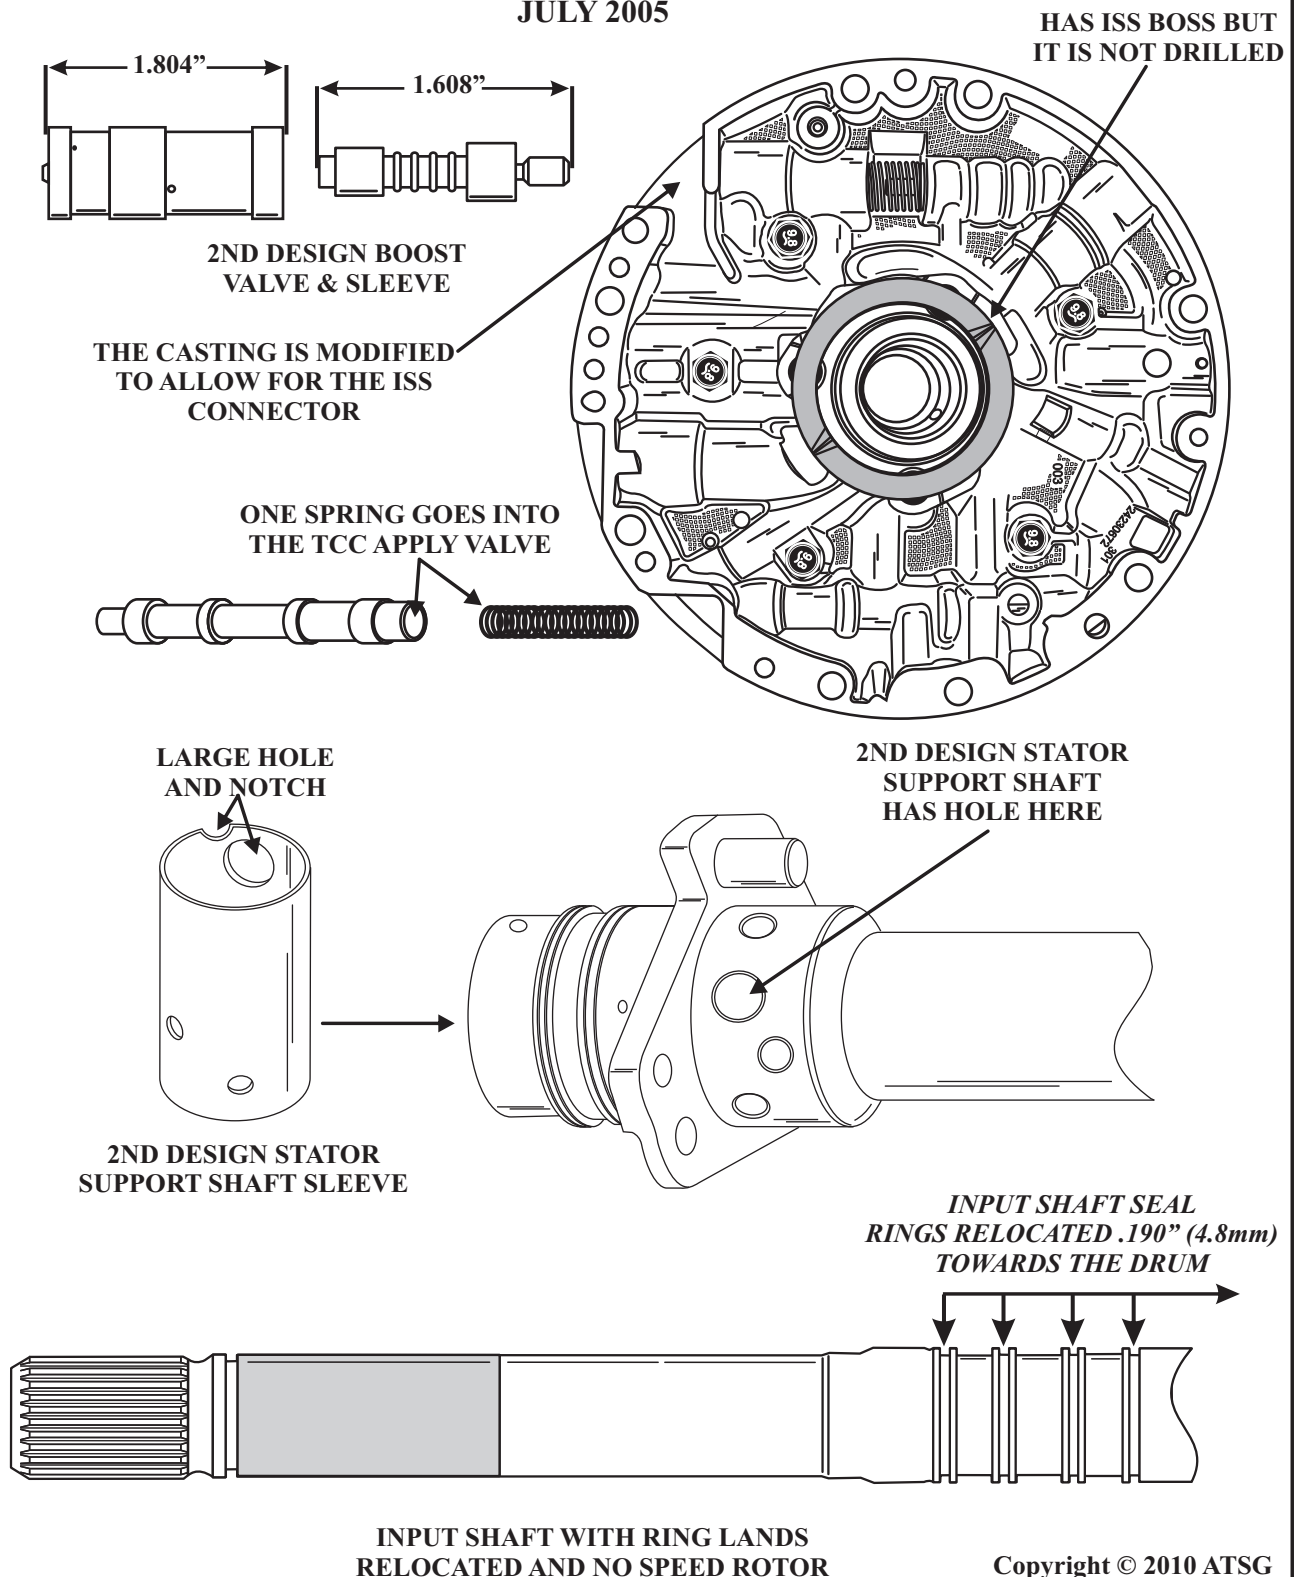

Figure 3
(4) After July 16th, 2005, the pump cover casting was modified in order to situate the ISS connector. This modification removed metal directly below the PR valve and boost sleeve bore and extended a cast wall inward. The internal TCC release passage was also modified at this time. The ISS mounting holes are not yet machined into the oil pump cover, (Refer to Figure 3).
At the same time, the turbine shaft oil seal ring grooves were moved inboard towards the rear of the unit approximately 0.190"(in.) to produce an area with which to manufacture 15 rotor teeth, this can also be seen in Figure 3.